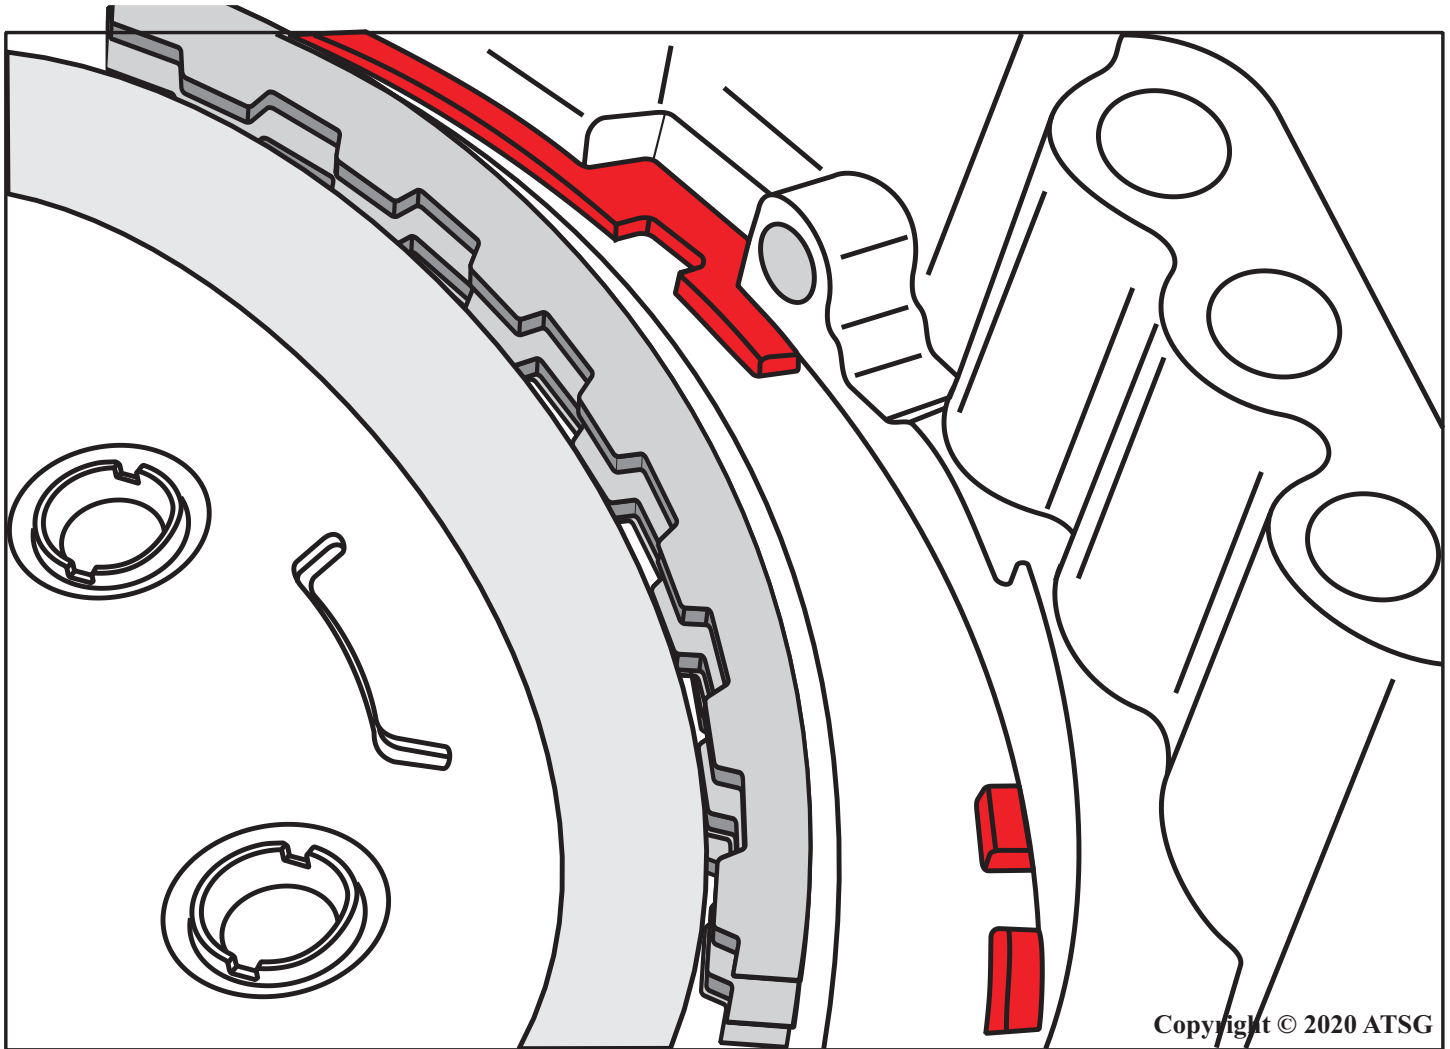

Figure 1
**CORRECTION:** The snap ring gap must be installed at the three o'clock position with the bottom of the transmission facing the six o'clock position as shown in figure 1. If one or two lugs are broken out, just install the snap ring gap in its correct position. If too many lugs are broken out, the transmission case will require replacement. This seems to be a problem isolated to the 2013 model year as far as only the factory mistake goes.